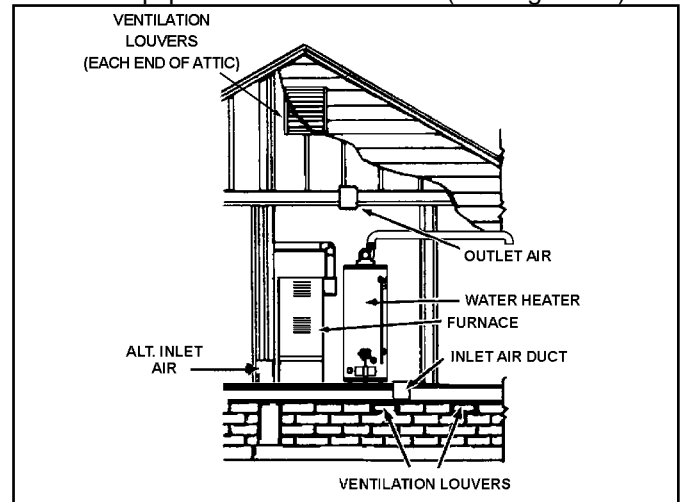
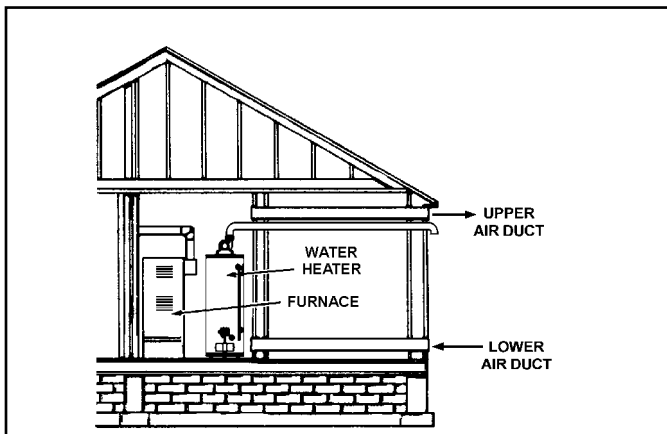

Figure 17.
Figure 19.
B. ALL AIR FROM OUTDOORS: (See Figure 17 thru Figure 19)
1. When directly communicating with the outdoors, each opening shall have a minimum free area of 1 square inch per 4,000 Btu/hr of total input rating of all equipment in the enclosure (see Figure 17).
3. When communicating with the outdoors through horizontal ducts, each opening shall have a minimum free area of 1 square inch per 2,000 Btu/hr of total input rating of all equipment in the enclosure (see Figure 19).
4. When ducts are used, they shall be of the same cross-sectional area as the free area of the openings to which they connect. The minimum short side dimension of rectangular air ducts shall not be less than 3" (see Figure 19).